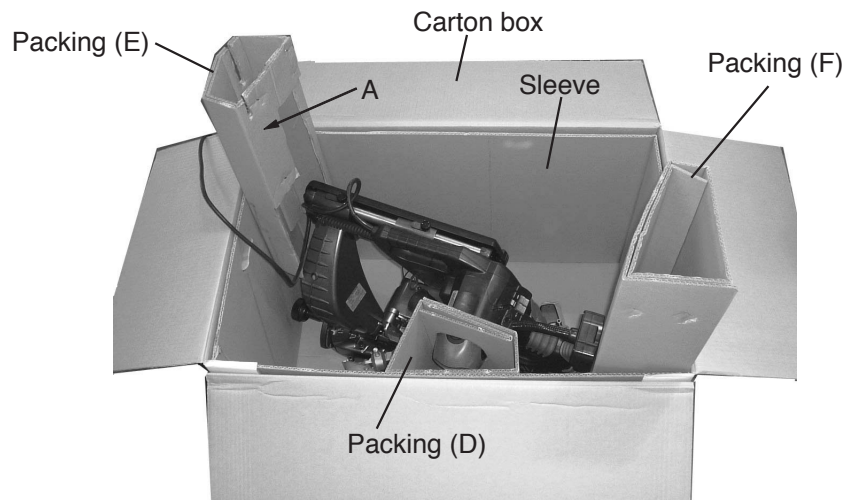

Fig. 55
(3) How to install packings (E) and (F)
Put the main body mounted with packing (B) and packing (D) in the carton box aligning with the base packing. Cover the support at the rear of the main unit, housing and switch handle with two poly sheets. Insert packing (F) into the clearance near the switch handle at the front of the main unit and packing (E) into the clearance near the support at the rear of the main unit from above. Put the cord through the groove "A" of packing (E) and insert the tip of the cord into the clearance "B" between the sleeve and packing (E). (Check that cable tag (B) is securely placed in "B" portion.) Place the accessories in the space of packing (F) (Fig. 55).